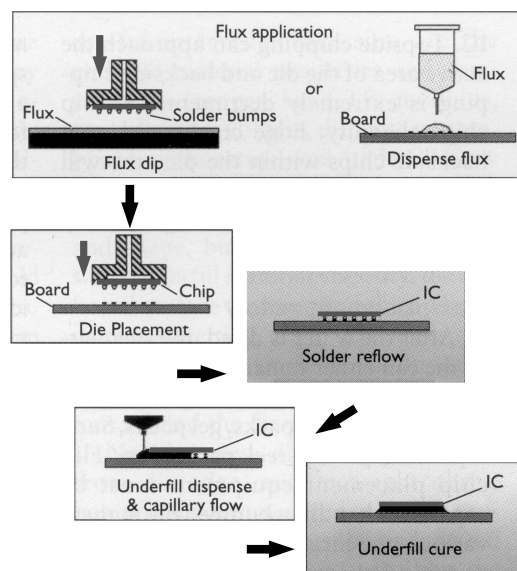

Figure 1. Summary of Flip-chip Assembly Process
8. Figure 1 illustrates the process steps involved.